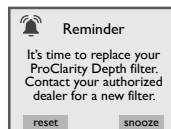

Figure 15.0e
24. ProClarity Depth Filter Reminder: This message will appear when the filter reminder time has expired (Figure 15.0e). The ProClarity Depth filter must be replaced.